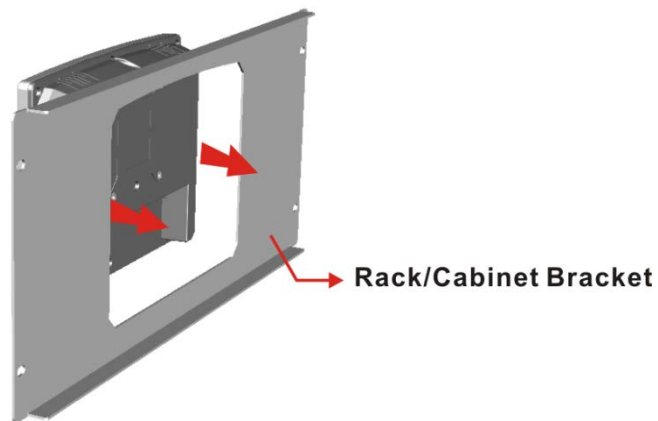

Figure 3-19: Rack/Cabinet Bracket Installation
Step 1: Slide the rear chassis of the AFL3-W15B-H81 flat bezel panel PC through the rack/cabinet bracket until the frame is flush against the front of the bracket (Figure 3-19).